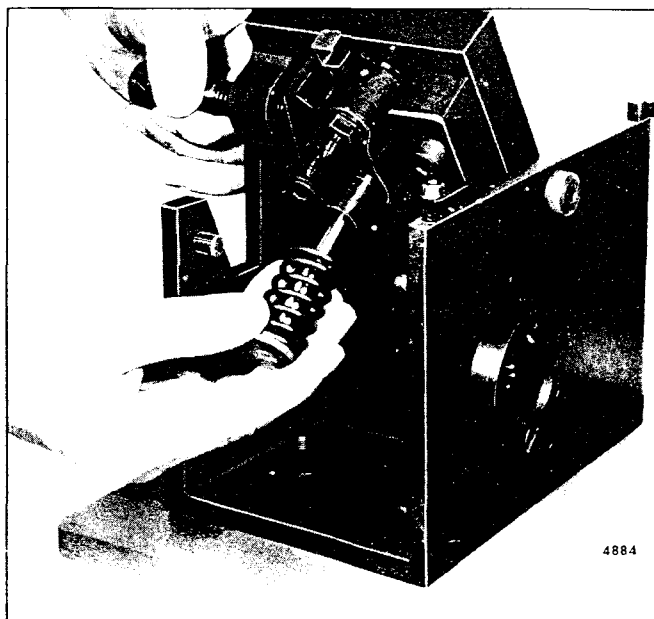

Fig. 11 – Removing or Installing Plunger Follower, Plunger and Spring
3. Refer to (Fig. 11) and remove the plunger follower, plunger and spring as an assembly.